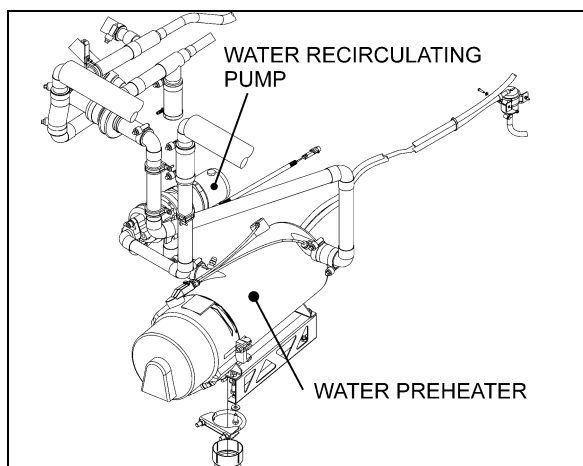

FIGURE 55: PUMP LOCATION – X3 SERIES CENTRAL A/C
- X3 Series - coolant preheater compartment (Figure 55)